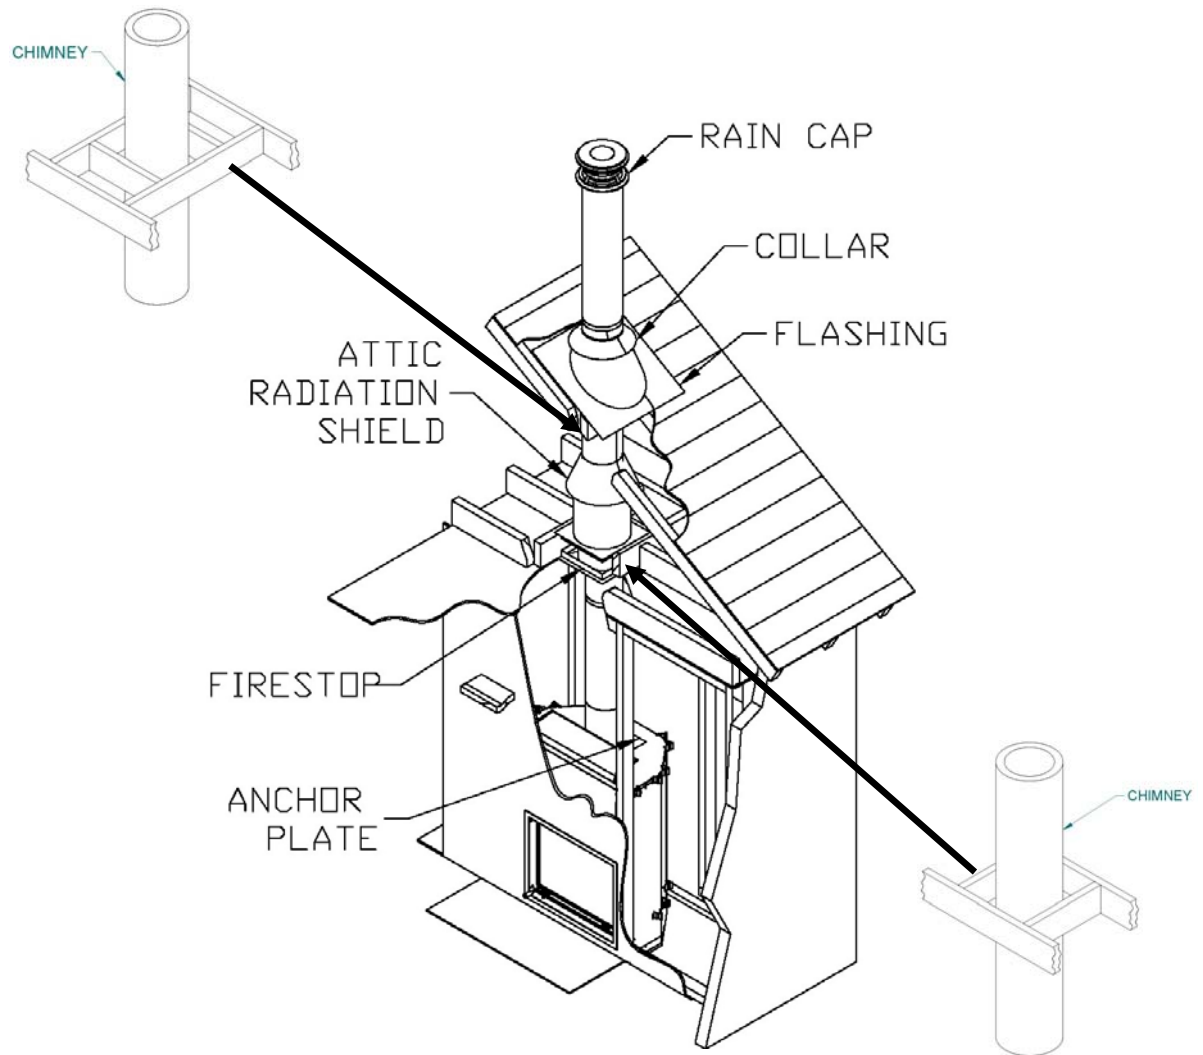

Figure 33
2. From below, install a firestop supplied by the chimney manufacturer in each ceiling/floor separation through which the chimney will pass. At the attic level, install an attic radiation shield from above (see Figure 33).
3. Follow the chimney's manufacturer's instructions and place the first chimney length on the fireplace. For all chimneys, you must use an anchor plate supplied by the chimney manufacturer before installing the first chimney length (see Figure 33). Continue installing chimney lengths making sure to lock each length in place according to the chimney manufacturer's instructions. In many cases, it is recommended to secure connections with three (3) ½" (12 mm) metal screws.
5. Then, put the roof flashing in place and seal the joint between the roof and the flashing with roofing pitch (see Figures 33). For sloping roofs, place the flashing under the upper shingles and on top of the lower shingles. Nail the flashing to the roof, using roofing nails.